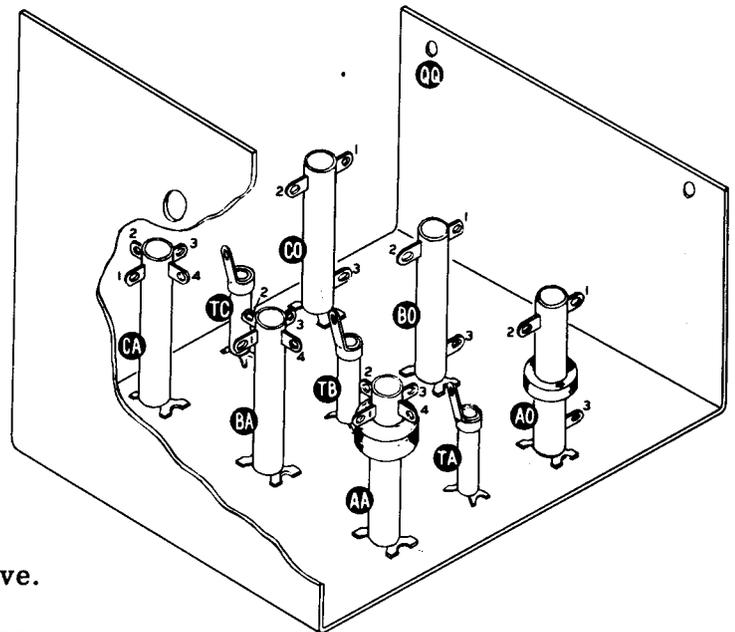

Figure 8
- () Mount the three trimmer capacitors in the three small holes between the two rows of coils. See Figure 8. These trimmer positions are lettered TA, TB and TC, corresponding to positions of adjacent coils.